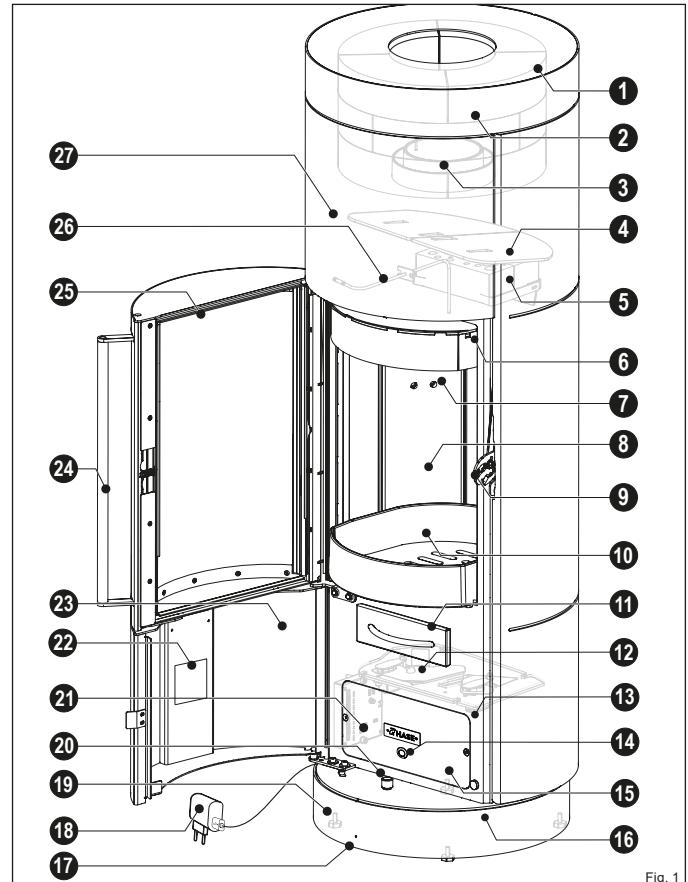

Fig. 1
- The heat retaining stones* (Fig. 1, No. 2) are used to store heat. When the fire has gone out, these stones emit the stored heat to the living space.
- The catalytic combustors can be cleaned with the included brush using the clean-out port (Fig. 1, No. 6).
- The firebricks (Fig. 1, No. 8) are made from vermiculite (fireproof mineral).
- The firebox door (Fig. 1, No. 25) of the stove is self-closing, i.e. the firebox door handle (Fig. 1, No. 24) must be held when opening the firebox door (e.g. when adding fuel).
- When the firebox door handle is released, it will close and catch in the door latch (Fig. 1, No. 9) and automatically seal the firebox.
- The iQ technology (Fig. 1, No. 12-14; 21; 26) automatically controls the optimal combustion air setting and firebox temperature to ensure complete, low-emission combustion.
- The stove consists of a steel body (Fig. 1, No. 27) and depending on the model with steel, ceramic or soapstone cladding to increase thermal storage.
- The stove can be levelled with the adjusting screws (Fig. 1, No. 19) to compensate for uneven installation sites.
- The ash drawer (Fig. 1, No. 11) collects ashes and must be emptied regularly. (see chapter "7.3.3 Cleaning the ash drawer and fire grate")
- The button (Fig. 1, No. 20) on the rotating console is used to lock and unlock the stove (Bild 1, No. 16). (see chapter „6.3 Operating the button rotating console“)
- The On/Off switch (Fig. 1, Pos. 14) is used to switch the controller on and off.
- The type label (Fig. 1, No. 22) is located on the inside of the service door.
- The mains plug and the USB-C cable (Fig. 1, No. 18) connect the iQ technology to the mains.